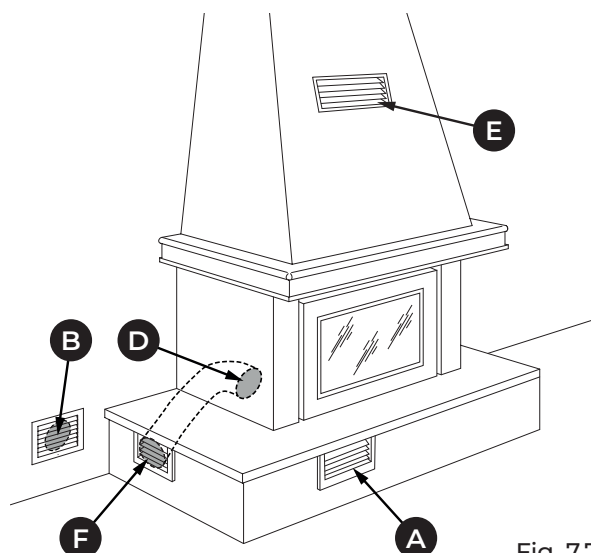

Fig. 7.7
- Fig. 7.7: air intake (F) on the cladding, channelled to the hearth. Lower grate (A) supplied on the cladding and wall hole (B) for the recirculation of ambient air.